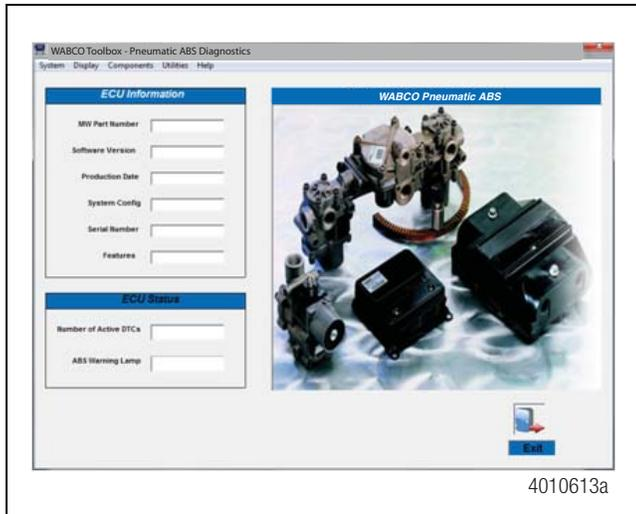
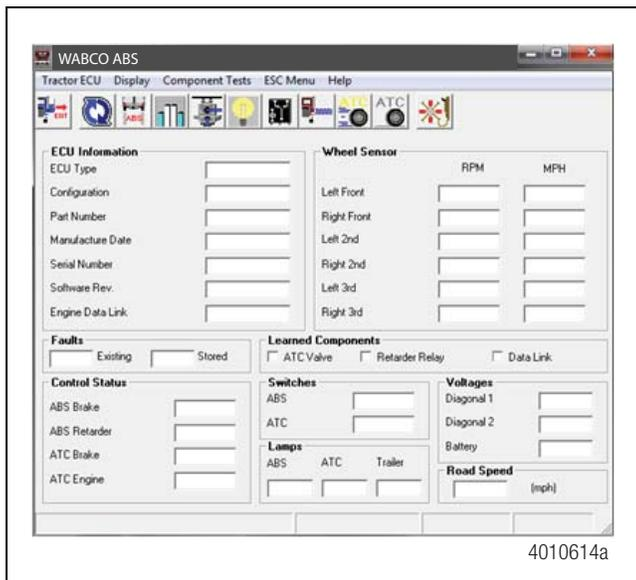

Figure 3.7
Figure 3.8
- In the **Main Menu**, select **J1939 Tractor ABS** or **J1708 TOOLBOX™**, then **Tractor ABS**. The **ABS Main Screen** will appear. Figure 3.7 and Figure 3.8.